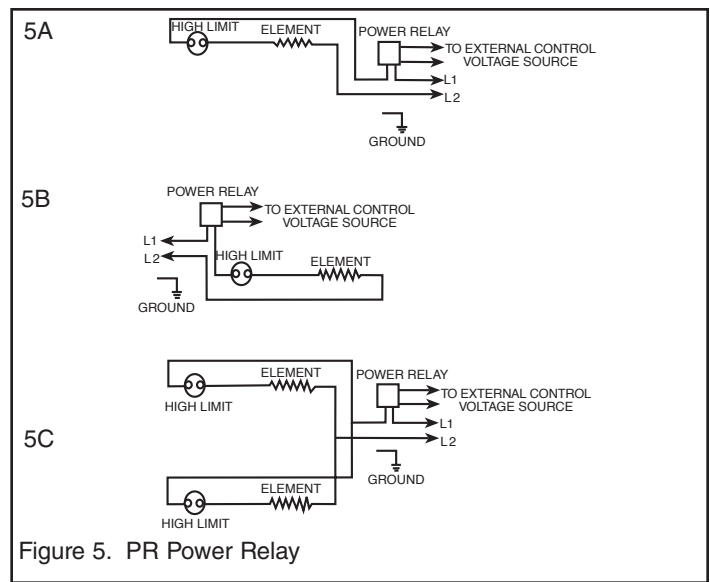

Figure 5. PR Power Relay
8. After all electrical power connections are completed, install the thermostat as described in the Thermostat Owners Manual. Connect wires from the thermostat to the red and white wires (refer to paragraph 5) with suitable UL Listed wire nuts. If more heaters are to be connected to the same thermostat, refer to wiring diagram in Figure 5.